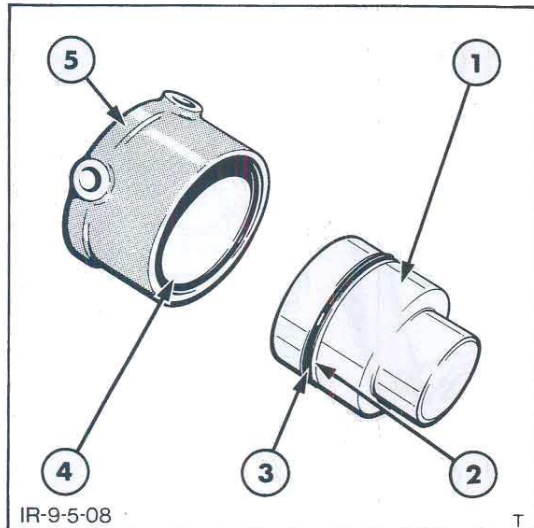

Figure 8
2. Remove the seal and sealing ring from the piston, and the dust seal from the cylinder housing, Figure 8.